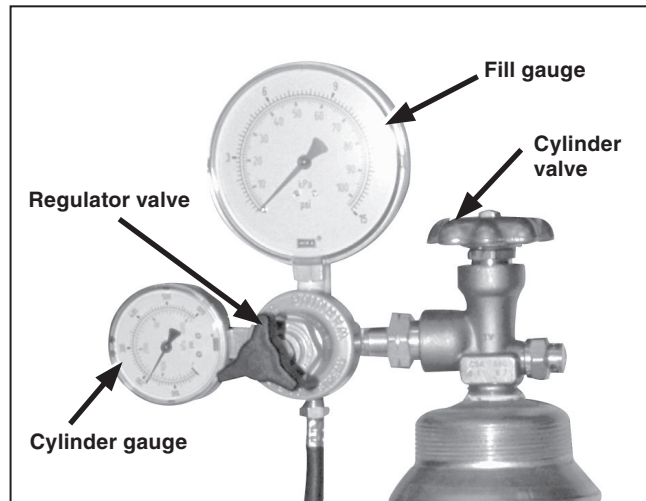

Figure 6. The regulator valve assembly.
- (c) Open the cylinder valve. Turn the regulator valve clockwise until the fill gauge reads approximately 5 to 7 psi. See Figures 6 and 7.